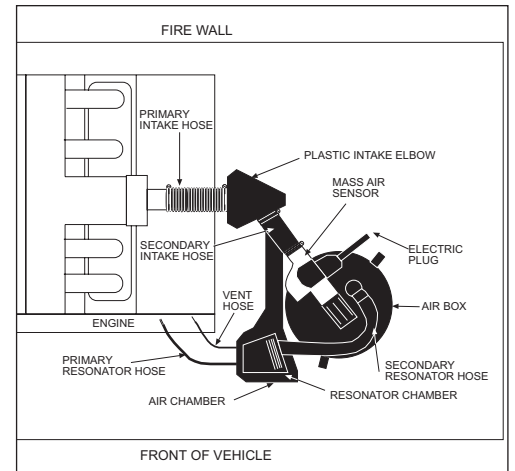

Fig. 1 90° elbow hose fitting
- 11) Attach supplied 90° hose fitting into the adapter. (see fig. 1) The fitting has tapered threads, so be careful not to over-tighten.